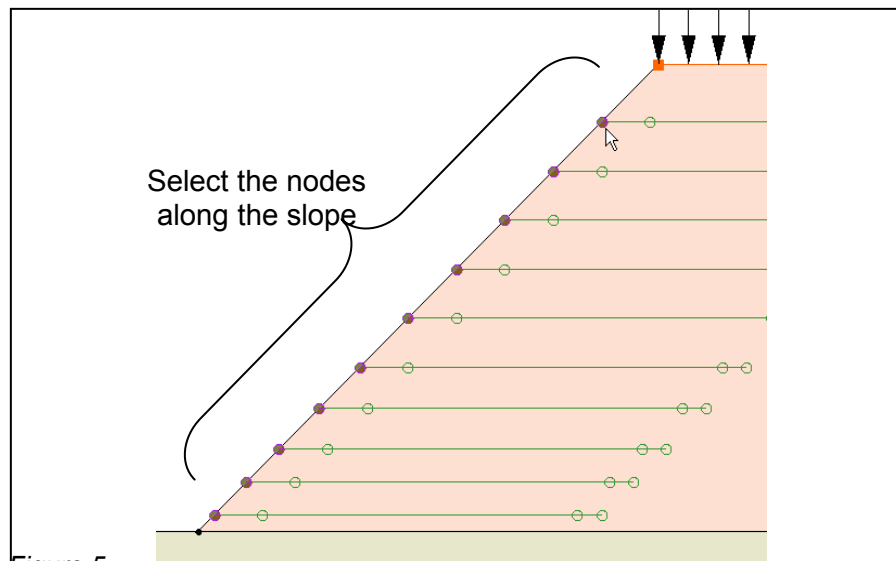

Figure 5. Selecting the reinforcement nodes along the slope.
2. Hold down the shift key and select all the reinforcement nodes on the left ends of the reinforcement arcs – the nodes that intersect the slope – as shown in Figure 5 below.